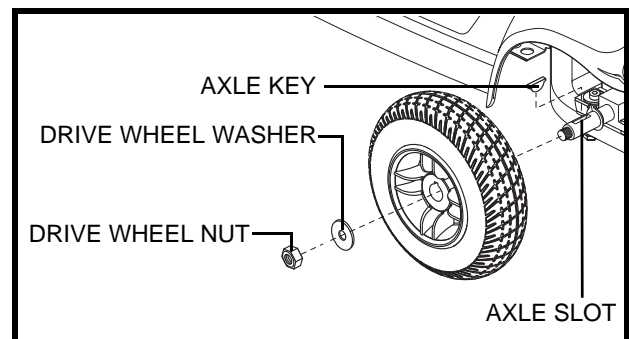

Figure 22. Wheel Replacement
3. Remove the drive wheel nut and washer from the axle. **See figure 22.**